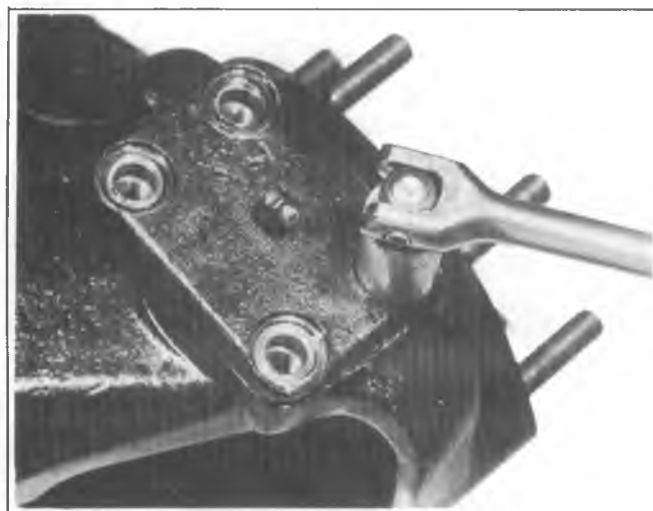

Fig. 3C-20K--Removing Lower Bearing Cap
4. Torque the upper ball socket nut to 100 ft. lbs. as shown in Figure 3C-16K. After torquing the nut, do not loosen to install cotter pin, apply additional torque, if necessary, to line up hole in stud with slot in nut.